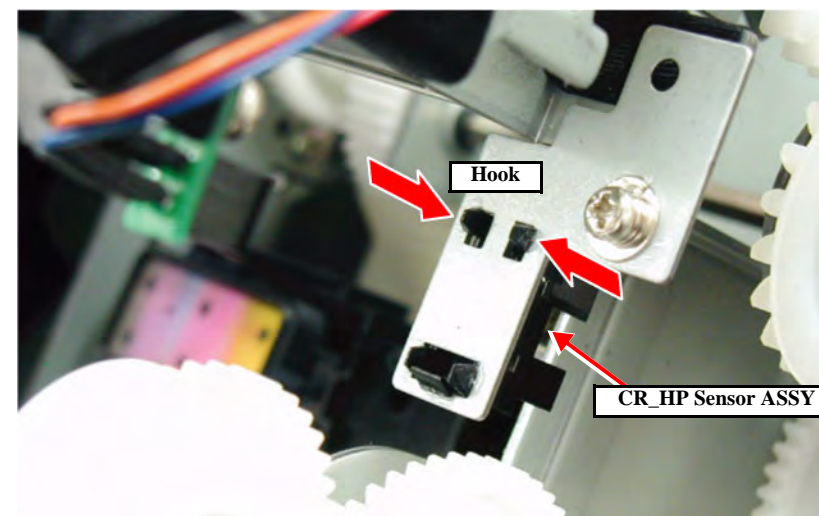

Figure 4-47. Removing the CR_HP Sensor
4. Pinch the two upper hooks of the CR_HP Sensor ASSY and disengage them from the holding plate, and disconnect the connector. (See Figure 4-47)